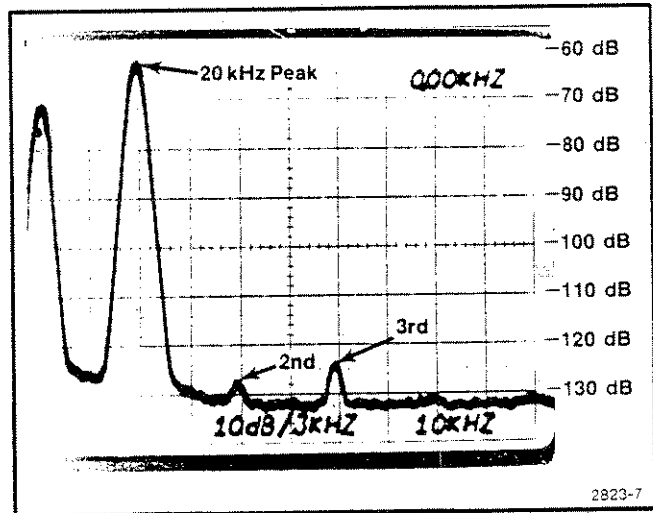

Fig. 4-4. 20 kHz harmonic distortion display.
- o. Adjust the 7L5 reference level control to position the 20 kHz peak on the top horizontal graticule line. This line is the  $-60$  dB reference level (see Fig. 4-4).
- p. Set the calibration fixture Mode to Notch (in) and Atten to 0 dB (out). Adjust the SG 505 FREQ VERNIER control and the two calibration fixture Adjust For Null controls to position the 20 kHz peak below the top horizontal graticule line (see Fig. 4-4).
- q. Note the 2nd, 3rd, 4th, and 5th harmonics on the waveform, or as many of these harmonics as are visible. See Fig. 4-4 and compute the thd using the formula in step 9 part h.
t. Repeat step 9 parts n through q, except position the 50 kHz peak (2nd peak) of the waveform (see Fig. 4-4).
w. Repeat step 9 parts n through q, except position the 100 kHz peak (2nd peak) of the waveform. The waveform is similar to that in Fig. 4-4.